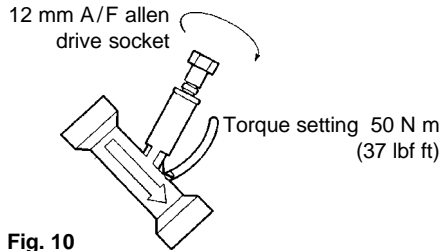

Fig. 10
**Fig. 10** Unscrew the gun from the retaining nut using an 11/16" A/F spanner on the spanner flats of the retaining nut. Tighten to 50 N m (37 lbf ft). On older 3/4" units insert a 12 mm A/F hex allen socket into the gun handle to a torque of 50 N m (37 lbf ft).